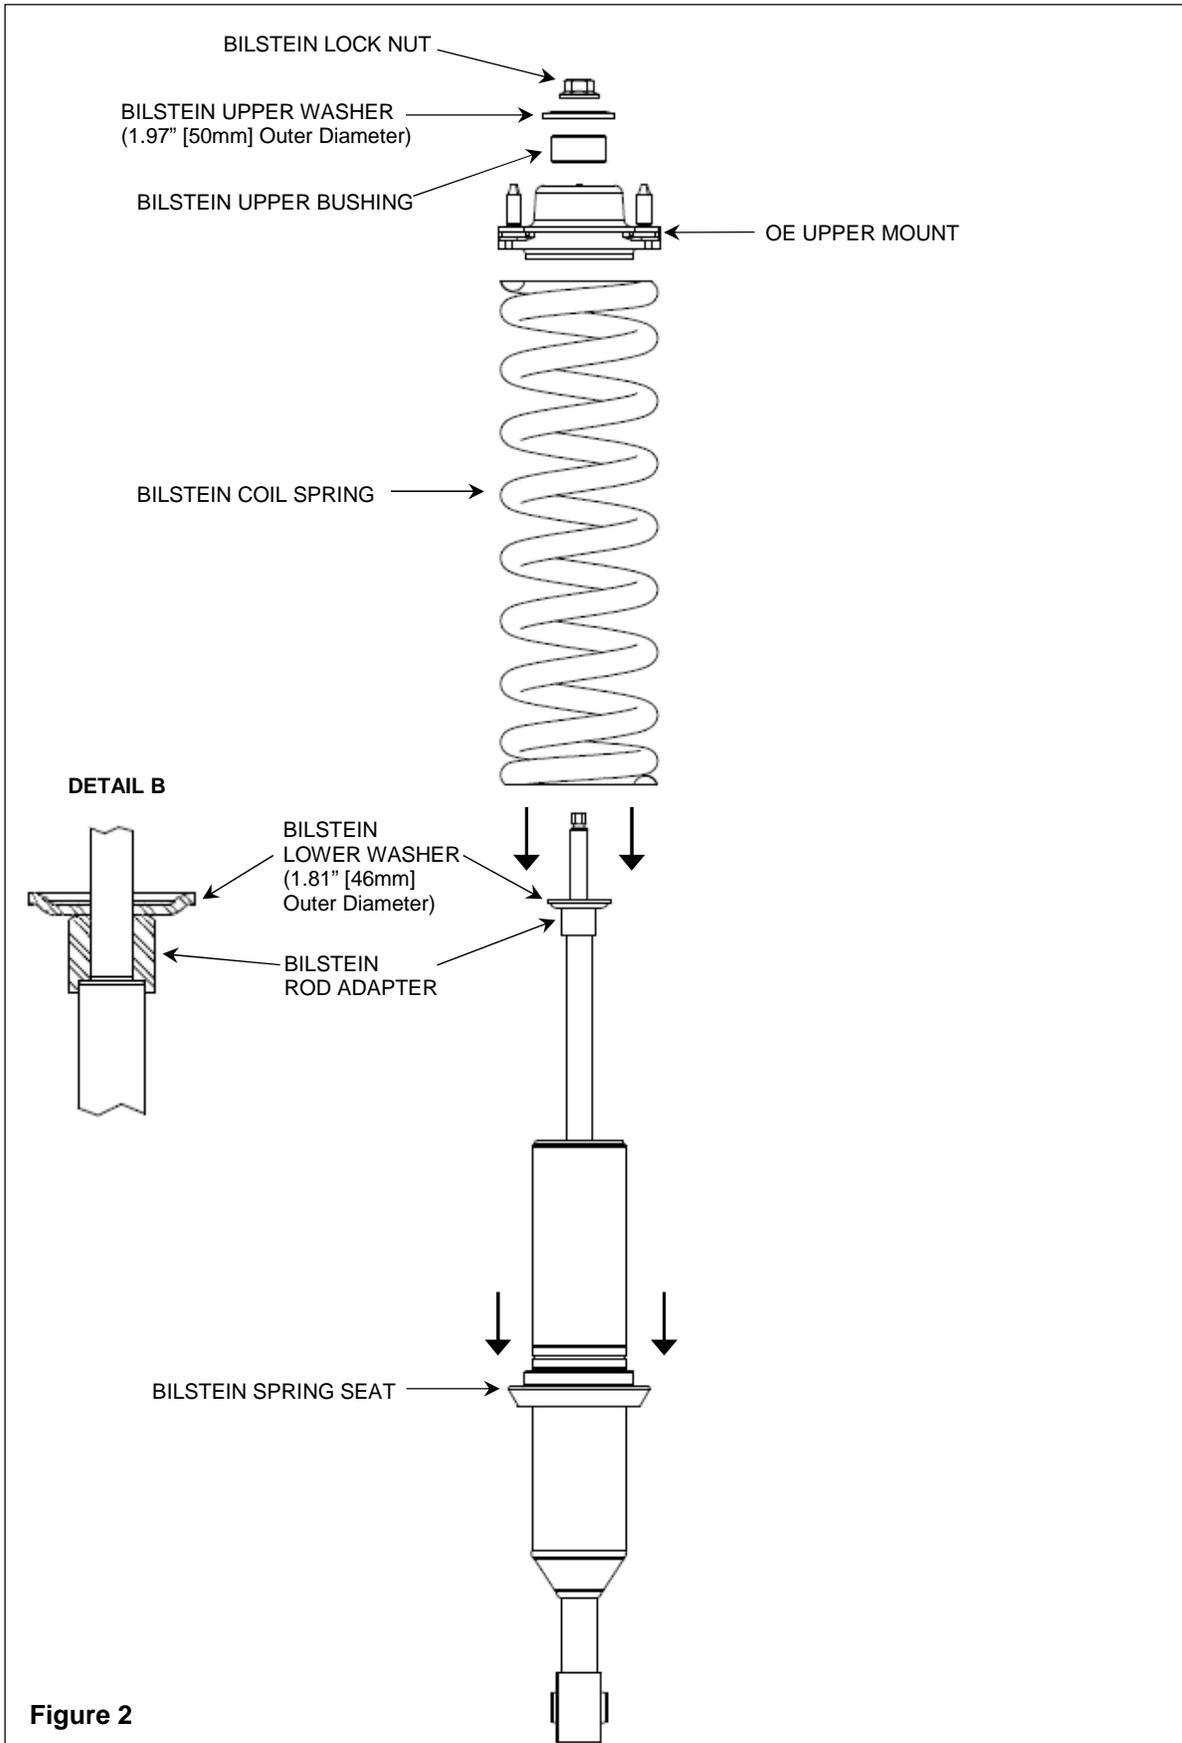

Figure 2
- F. Install the supplied rod adaptor (counter bore side down) onto the stem of the rod as shown. Ensure that the rod adaptor is oriented correctly (see Figure 2 Detail B).
- G. Install the supplied lower washer (concave side up) onto the stem of the rod as shown. Ensure that the lower washer is oriented correctly (see Figure 2 Detail B).
- H. Using an appropriate spring compressor, compress the supplied coil spring and assemble it with the new Bilstein shock. Refer to Figure 2 for the order of the remaining components.
- J. Install the supplied upper bushing and supplied upper washer (concave side down) onto the stem of the rod as shown. Ensure that the upper washer is oriented correctly (see Figure 2).